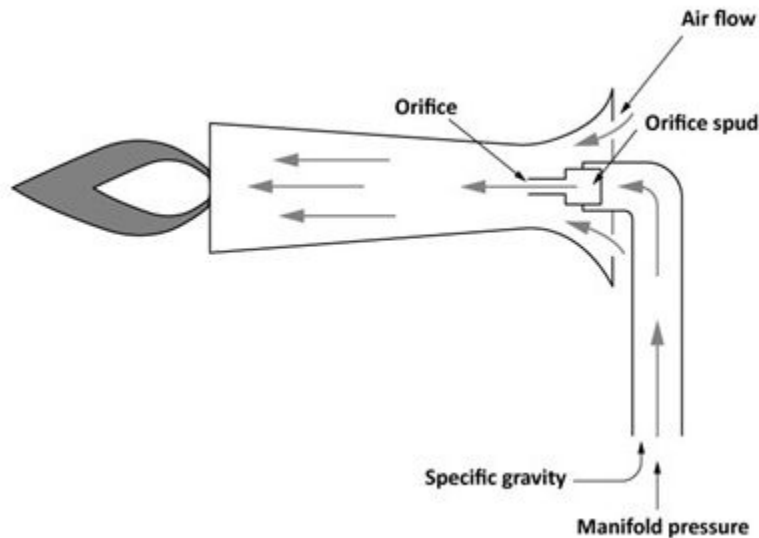

Figure 8 Burner showing gas flow through an orifice
- Figure 8 “Multiport upshot burners” by Camosun College is licensed under a CC BY 4.0 licence (<https://creativecommons.org/licenses/by/4.0/>).
Before examining the sizing of gas orifices, you must be familiar with the following four factors that influence the flow of gas through an orifice (Figure 8).